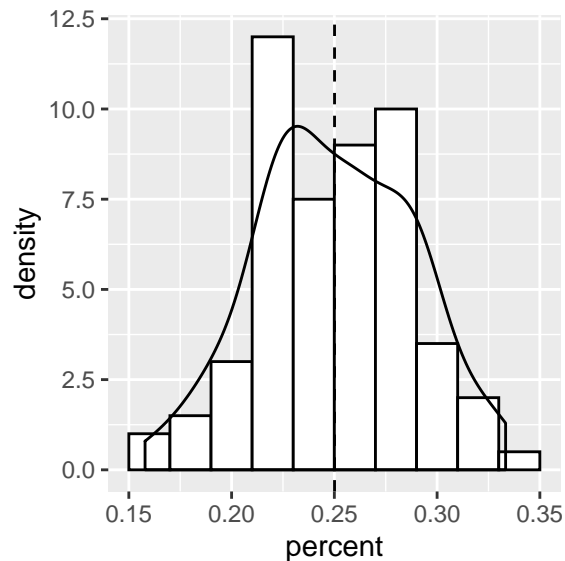

Figure 4: Percentage of Damaged Printers per Trial (100 Visits)
8. Repeat parts (4)-(7), but simulate the number of damaged printers assuming a  $\text{Bin}(n, 0.25)$  distribution. As the inspector, you do not know if the manufacturer is telling the truth, but you are a great statistician who knows how to analyze data properly. After examining your histogram, the confidence intervals, and the  $p$ -values, what would you conclude about the veracity of the manufacturer's claim? And, more importantly, Why?
- (a) First we can simulate the data using the new distribution in the same manner as part (4). Please reference Figure 4. Note the mean-line remains, but is markedly different from before due to the new distribution.